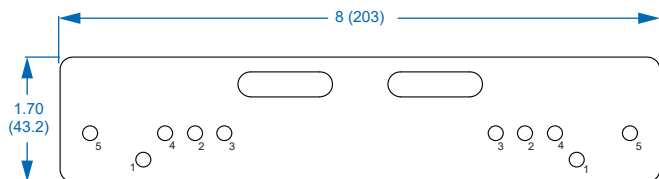

Figure 2. Hole Location Table & Dimension Drawing
1. Attach the mounting plate to the enclosure with the provided hardware. The holes for the enclosure mounting bolts are accessed by removing the enclosure lid. See Figure 2 for holes locations.